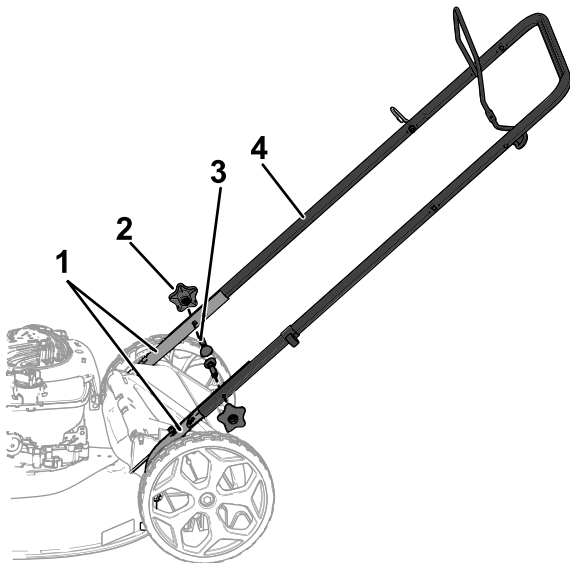

Figure 3
1. Remove the handle knobs and corresponding bolts from the machine housing (Figure 3).
2. Position the upper handle on the lower handles (Figure 3).
3. Install the handle knobs with the corresponding bolts and tighten them firmly by hand (Figure 3).